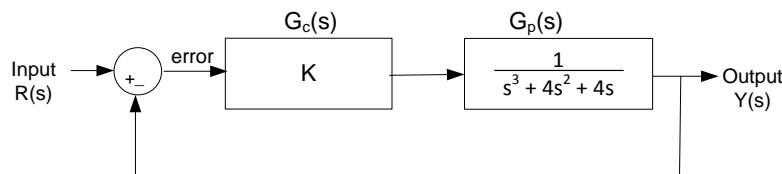

Figure 1. Closed-loop control system
Assume that the closed loop system in Figure 1 has a plant, $G_p(s)$, that represents the mass-cart-spring system that you will control in lab and a proportional controller, $G_c(s) = K$.
3. Use the `rlocus(tf(num,den))` MATLAB command to create the root locus plot for the open loop transfer function in Figure 1. Note that you must use the open loop transfer function with $K = 1$ in the MATLAB command.